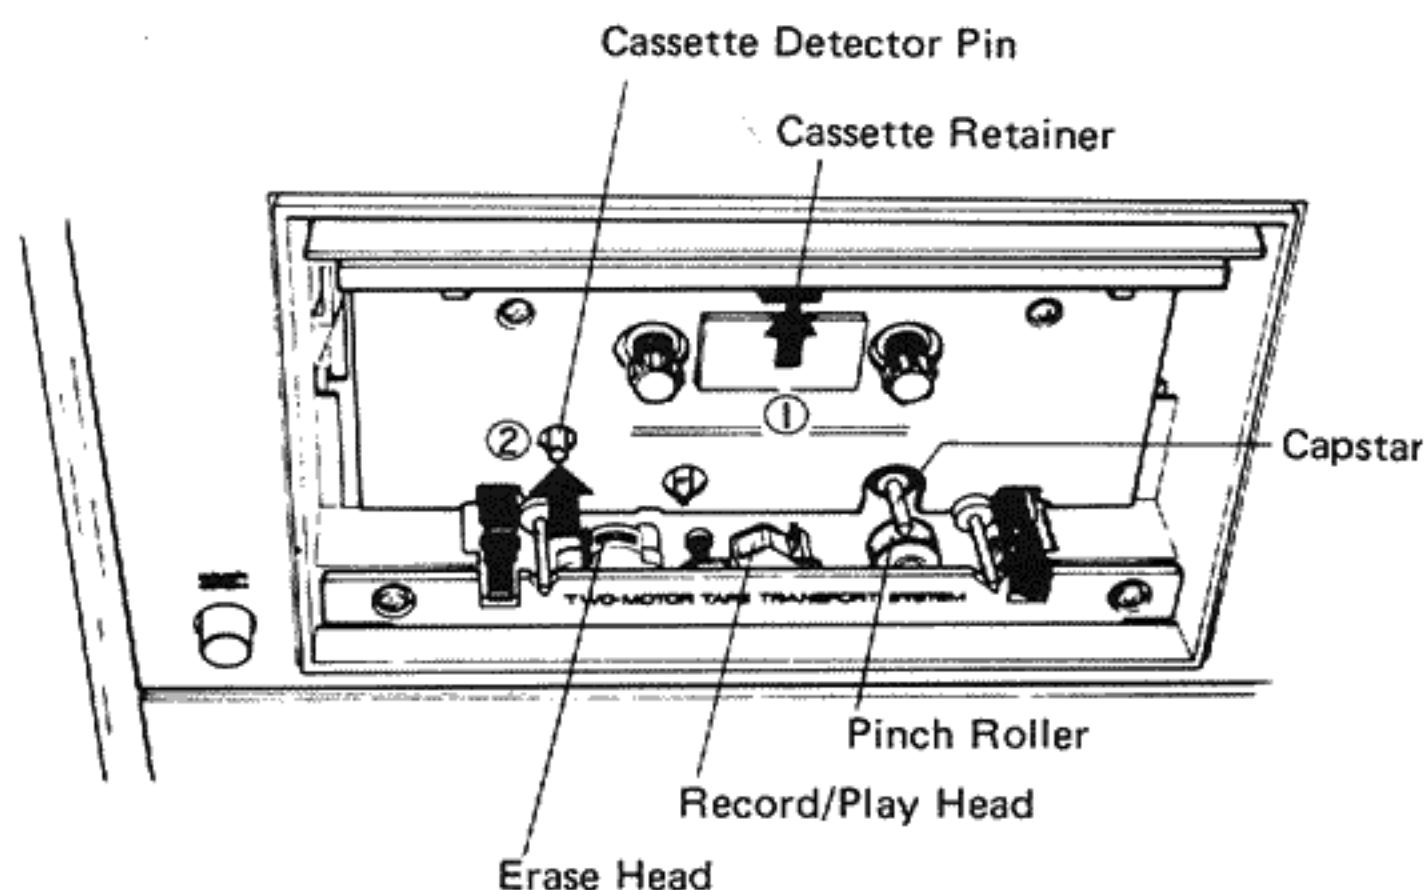

Fig. 13
2. With the fingertips (see Fig. 13) raise the cassette retainer ① and at the same time depress the cassette detector pin ②.
3. Depress the PLAY lever, release the cassette detector pin ① and proceed with cleaning.